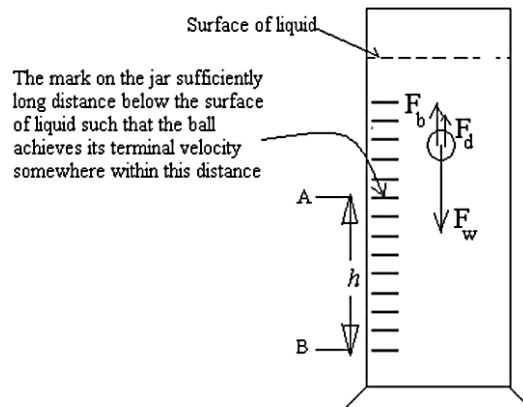

Figure 1
3. Fix a mark, A (as shown in figure 1) on a cylinder below the surface of glycerin such that the ball achieves its terminal velocity while passing this mark. Fix another mark near the bottom of the cylinder (mark B in Figure 1).